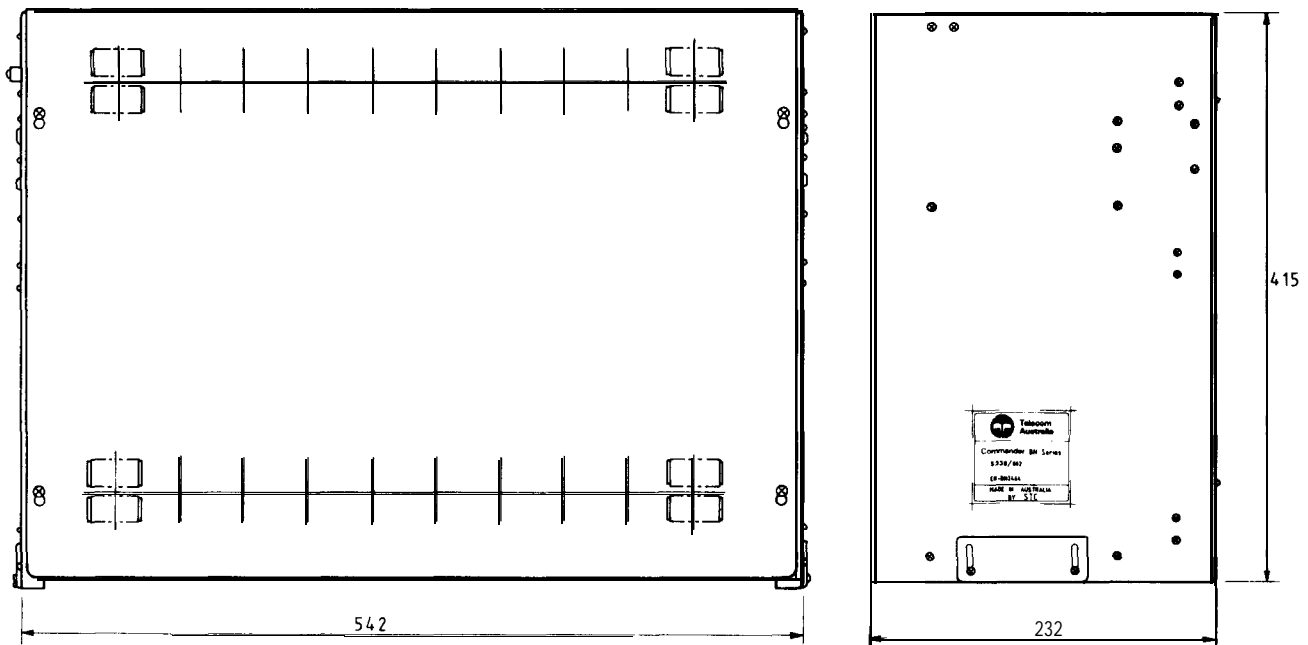

FIG. 2.3.3(a) BN-2464 EXPANSION RACK CABINET DIMENSIONS
The cabinet dimensions for the Expansion Rack are shown in figure 2.3.3 (a).
The BN-2464 Expansion Rack (ER) cabinet is mounted as follows. Refer to figure 2.3.3(b).